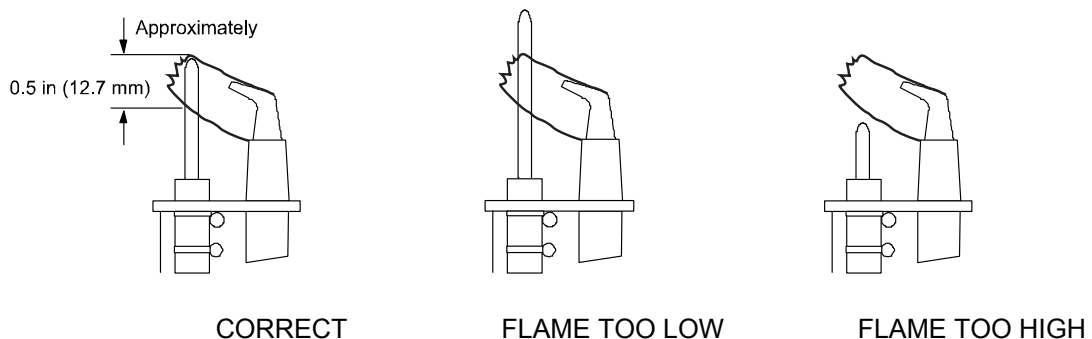

Figure 1: Proper Flame Sensor Position
- Weak flame, flame not in contact with the spark electrode of flame sensor. Check that flame sensor tip is in the flame. For proper sensing, the rod tip must be $3/8"$ (10mm) to $1/2"$ (13mm) in the flame. See Figure 1.